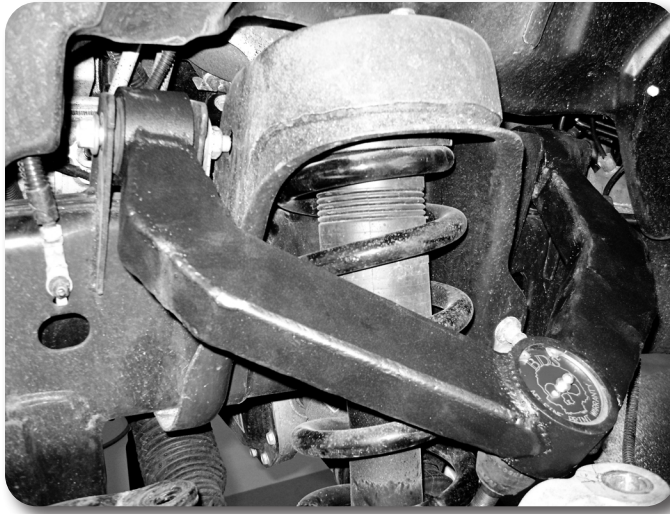

Figure 7
23. Grease the upper control arm assembly once installed. Fig. 7